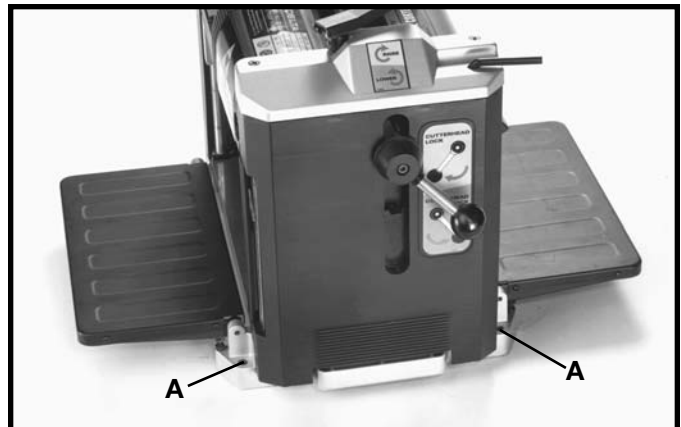

Fig. 10
Place the planer on the stand and align the four holes in the base of the machine, two of which are shown at (A) Fig. 10, with the four holes in the top of the stand. Place the M8x1.25x35mm hex head flange bolt through the holes in the planer and the stand, and thread the M8x1.25 flange nut onto the hex head flange bolt and tighten securely. Only operate planer, attached to stand, on a flat level surface.